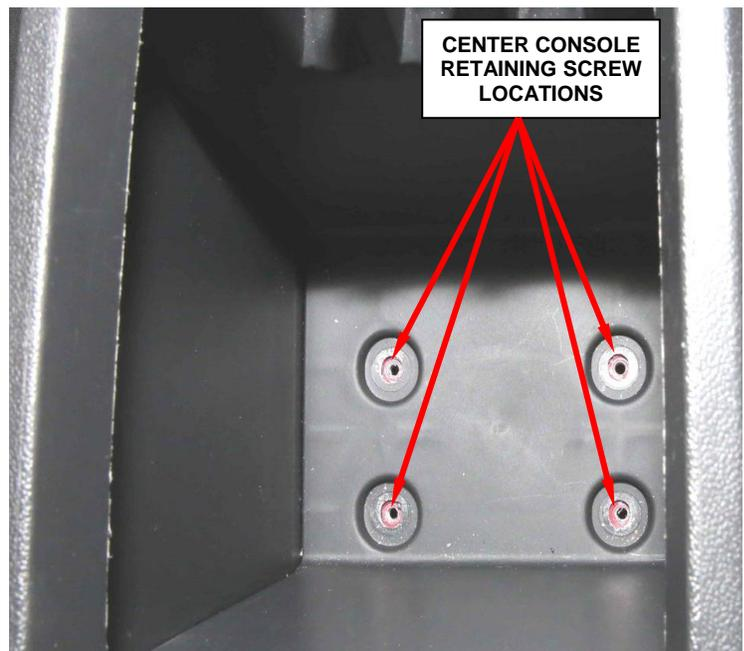

Figure 5 – Console Retaining Screws Located in Center Console Storage Bin
- b. Remove and save the four retaining screws located in the center console storage bin (Figure 5).